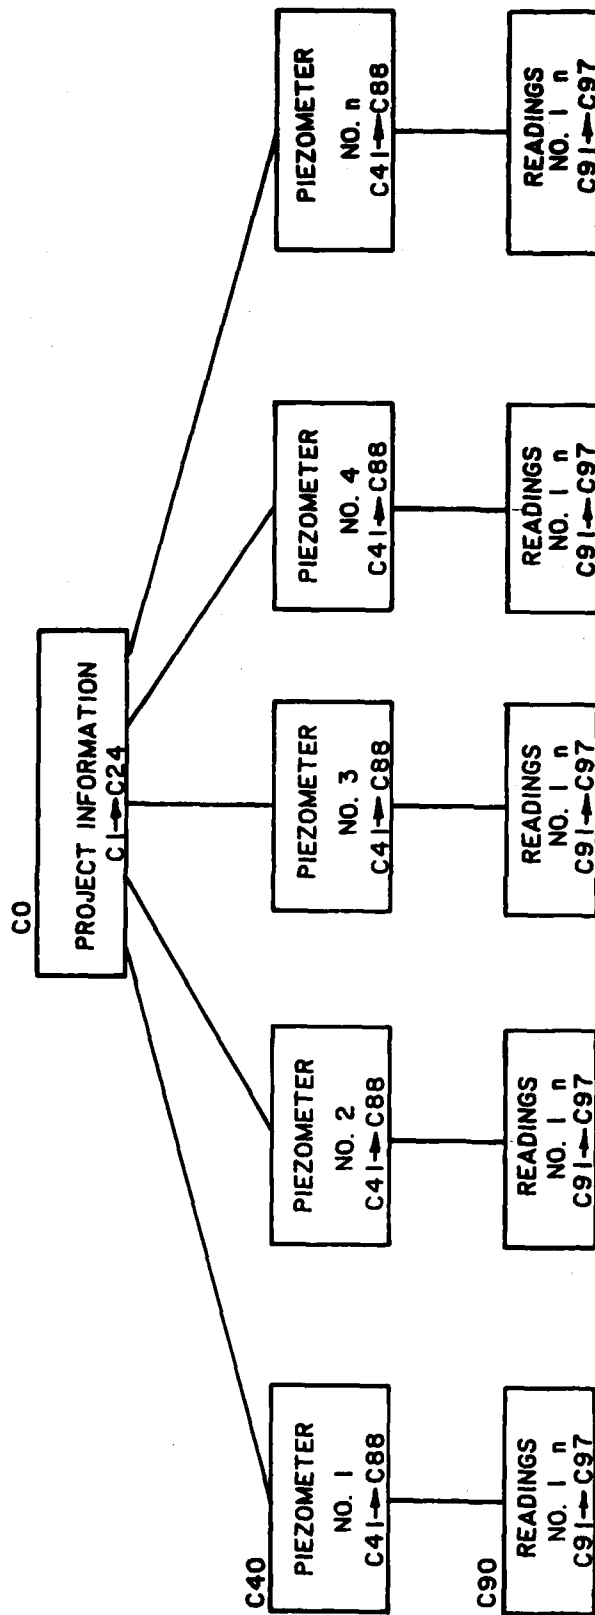

Figure 1. Schematic of the data base structure showing component number in Table 1
13. The piezometer data base uses System 2000 (trademark of Intel Systems Corporation) as the data base management system (DBMS) and storage software. This system is available to all CE Districts on the CDC mainframe computer. System 2000 (S2K) is a hierarchical or tree-type DBMS where data are grouped into functional units at each level, and each level has a direct relationship to the data appearing above and below that level. A schematic of the data base structure is shown in Figure 1.
14. The data base structure is set up to resemble the field situation where there are a number of piezometers for every project with multiple readings for each piezometer. At the top of the data structure (level C0 in Figure 1) is the project information. This level contains the data describing the project(s) such as location, type of structure, maximum and minimum pool elevation, tailwater elevation, and important construction dates. Below that level (C40 in Figure 1) is the piezometer information level which consists of the number or name of the piezometers, the location, top of riser elevation, threshold values, and other specific information about the piezometer. Any of this information may be irrelevant to the user and ignored. However, the threshold values are more than just stored data values; they can be used for a quick data check and for issuing appropriate warnings. If the readings exceed the established threshold values, the warning message would be as follows:
The threshold messages can be modified to meet user needs by changing the wording of the warning message (e.g., 1st threshold - "Check reading and call District if correct"). The last level (C90 in Figure 1) is the reading level which consists of readings, dates, method used to obtain reading, and any comment or remarks about the reading. The project data are entered once for each project while the piezometer data are entered for each instrument. There will be many piezometers associated with one project and many readings associated with one piezometer.
15. Within each repeating group or level of the data base, there are individual data elements which have names, abbreviations, component numbers, and other attributes identifying the type of data that will be retained. These other attributes of the data elements are an indication of how the data element is stored and used within the system, the data type, and the field size. Each data element is stored within the data base as either KEY or NON-KEY, depending on how the element will be used. If the data element is not to be used to define data groups, the element is designated as a NON-KEY element. However, if the element will be used to define specific groups of data for analysis, the element is designated as a KEY element. Examples will be shown in Part IV. All the data elements within the system fall within one of the following four types: NAME consists of any combination of letters or numbers and will be treated as text material; DATE consists of a fixed format for month, day, and year; and two types of numeric data, DECIMAL (allows a decimal point) and INTEGER (does not allow a decimal point). The field size is the maximum number of characters that can be stored for a particular element. The data elements and their attributes are listed in Table 1. The component numbers from Table 1 are shown on the schematic of the data base structure in Figure 1.